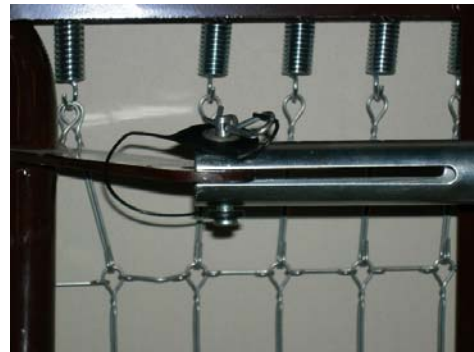

Figure 9B Type 2 Extension tube attachment
2. Pull out extension tube and slide onto frame as shown in Figure 9B.